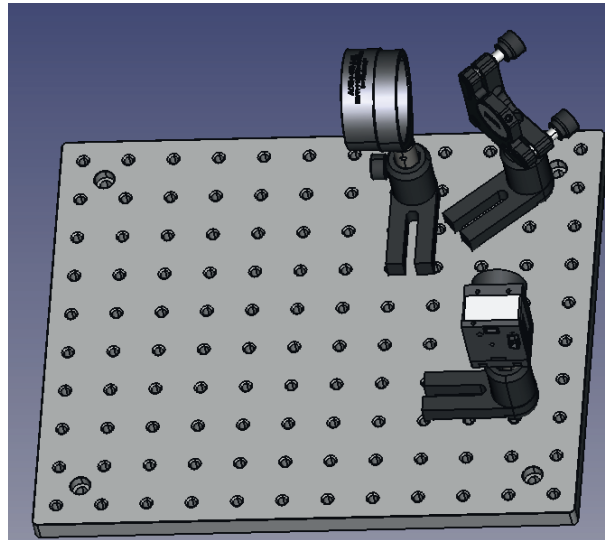

FIGURE 1 – Setting up the detection.
Step 1 : Attach the CMOS camera on an optical post and install it inside a post holder. Install the kinematic mirror mount in the top right corner of the optical breadboard (see Fig. 1). Adjust the height of the elements at 8 cm (for the center). Place the post of the camera 12 cm away of the kinematic mirror mount. Then place the 2 inch lenses on a post holder at roughly 8 cm from the kinematic mirror. Observe a scene far away (ideally at infinity) and adjust the position in order to obtain a sharp image on the camera using the manufacturer software. Usually, we observe a scene farther than 100 m through a window of the office or the lab.